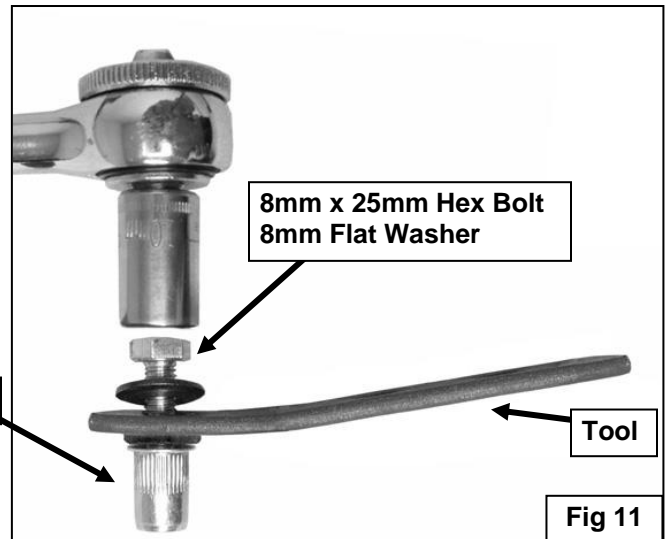

Fig 11
10. Select (1) 8mm Hex Bolt, (1) 8mm Flat Washer, (1) 8mm Insert Tool and (1) 8mm Threaded Insert. Assemble the tool as pictured in **Figure 11**. Hold the Tool assembly and push the threaded Insert into the correct hole in the frame rail identified in **Step 9**, **(Figures 9 & 10)**. **IMPORTANT:** Threaded Insert cannot be removed once installed. Verify that Insert is in the correct hole in the frame rail before proceeding.